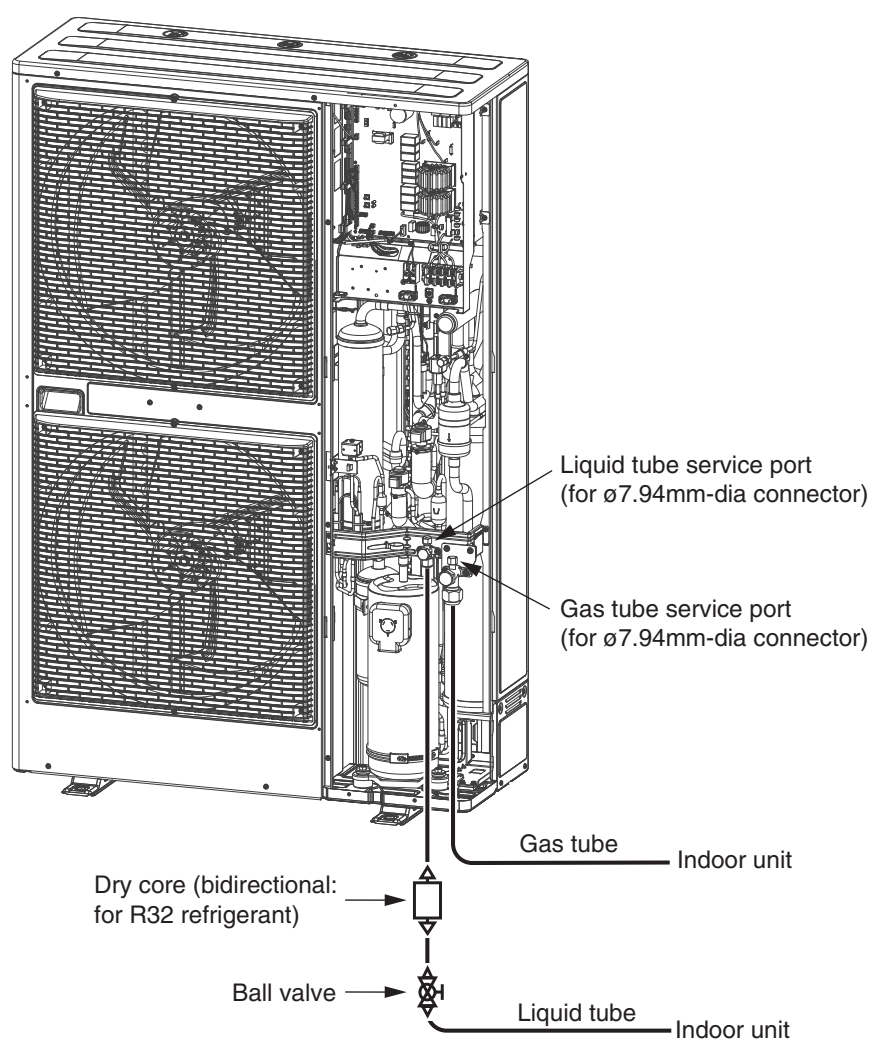

Fig. 11
- (5) As shown in Fig. 11, disconnect the tube that runs from the liquid tube valve to the ball valve on outdoor unit where dry cores will be attached. Then attach the dry cores.
- (6) At outdoor unit where dry cores are attached, pressurize with 3.8 MPa of nitrogen from the liquid tube service port and check for leaks.
- (7) After evacuating all nitrogen gas from the tubing, apply vacuum from the liquid tube service port to outdoor unit where dry cores are attached until the pressure is -101kPa {-755 mm Hg, 5 Torr} or less.
- (8) Fully open the liquid tube valve and ball valve on all outdoor units where dry cores are attached.
- (9) Operate all units for approximately 3 hours (in either Heating or Cooling mode).
- (10) Follow the above procedure, and replace dry cores with new dry cores.
- (11) Operate all units for approximately 20 minutes (in either Heating or Cooling mode).
- (12) Follow the instructions in "2. Discharging Compressor Oil" and drain a small amount of the oil from the oil separators of outdoor unit where dry cores are attached. Check the color phase, odor, and other characteristics.
- (13) If the results show that dry core cleaning is still necessary (for example, a color phase of 4.0 or higher)*, return to Step 11 and repeat until the results return to normal (including a color phase of 3.5 or less)*.
- (1) See Section “3-2-3. Refrigerant recovery procedures (2) : Indoor unit with no ball valve equipped”. Perform pump down of the refrigerant from all indoor units and inter-unit tubing to the outdoor unit side.
- (2) Cut the liquid tube at all outdoor units where dry cores will be attached, then attach the dry cores and ball valves as shown in Fig. 11.
- (3) For the next steps, see the steps (6) – (17) in **(A)** on the previous page.